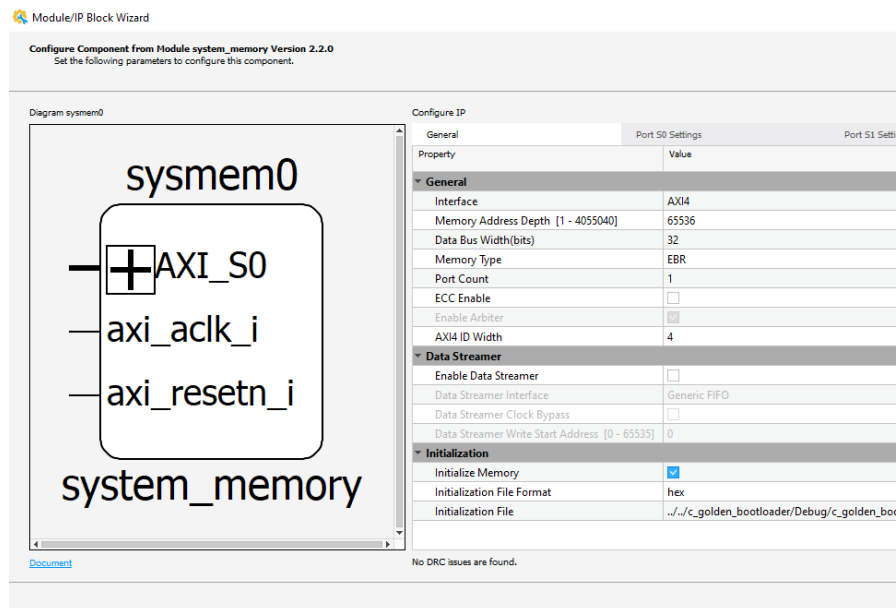

Figure 8.42. System Memory IP Configuration
- Double-click on the highlighted component shown in the schematic and it opens the **Module/IP Block Wizard** as shown in Figure 8.42.